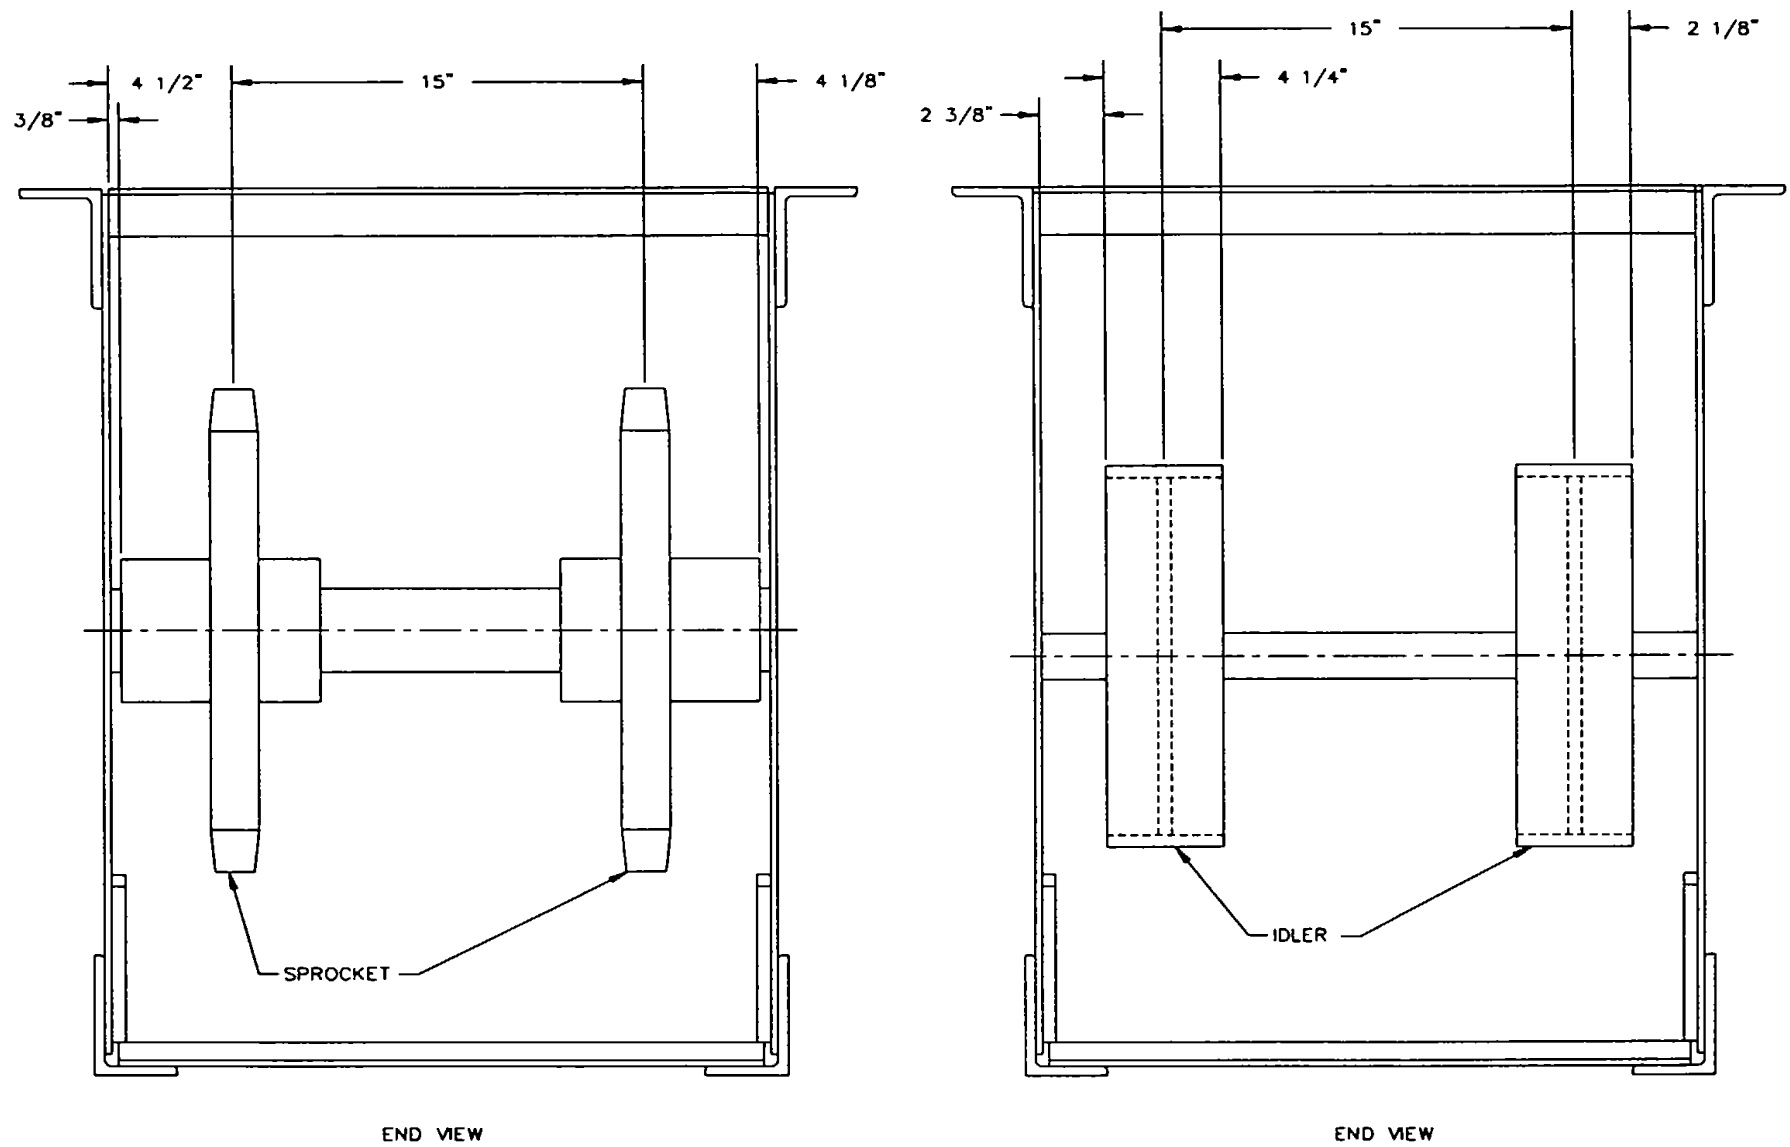

Figure 3-14. Idler and Sprocket Spacing
8. Install the idler shaft, idlers, hubs and bearings Position the idlers according to the dimensions shown in Figure 3-14. Install the bearings according to the Instructions in Section 3-3-13. Connect the grease line to the bearings.